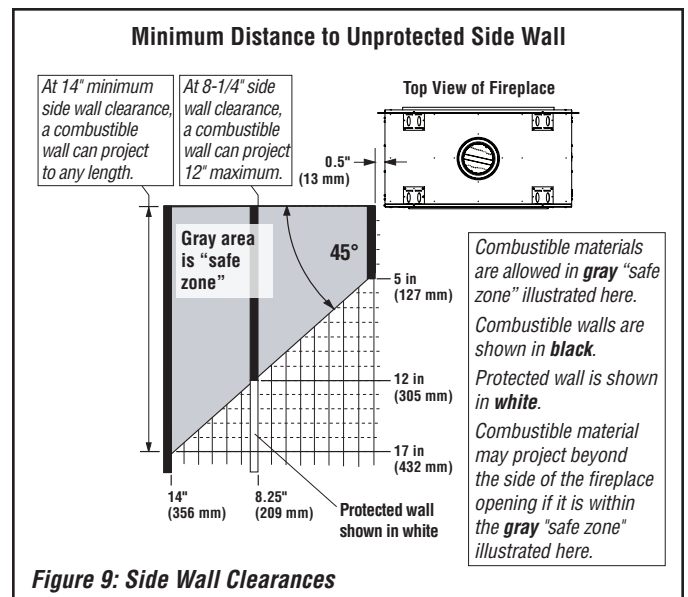

Figure 9: Side Wall Clearances
- Combustible material may project beyond the sides of the fireplace opening, as long as it is within the shaded area shown in **Figure 9 on Page 9**.